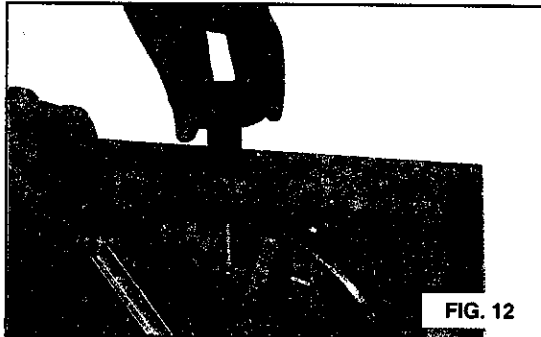

FIG. 12
- c. Loosen the blade tension by turning the blade tension knob on the top of the upper wheel housing counterclockwise until the saw blade has slackened (viewed from above) (See Fig. 12).